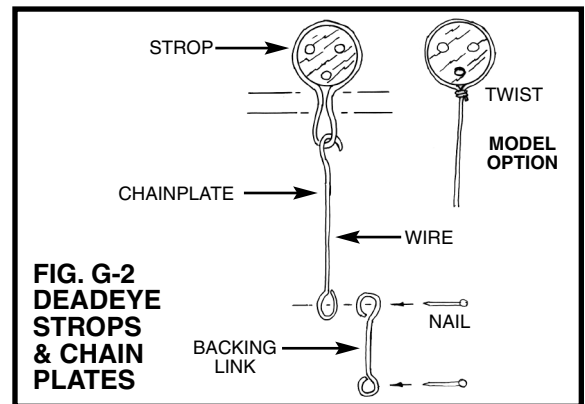

FIG. G-2 DEADEYE STROPS & CHAIN PLATES
The lower shrouds (1), topmast backstays (13), and topgallant backstays (14) are set up with deadeyes and lanyards at the channels and attached along the outside of the ship using chain plates. The lower deadeye strops and chain plates are to be made of steel wire provided in the kit (Figure G-2). To set up the shrouds, make a temporary jig of wire to space the deadeyes as you do the seizings (Figure G-3). The sketch also shows the sequence for reeving the lanyards and the proper sequence for the shrouds going around the mastheads. Keep an eye on the masts as you rig the shrouds, so you will not pull them out of line. After the shrouds are in place, proceed